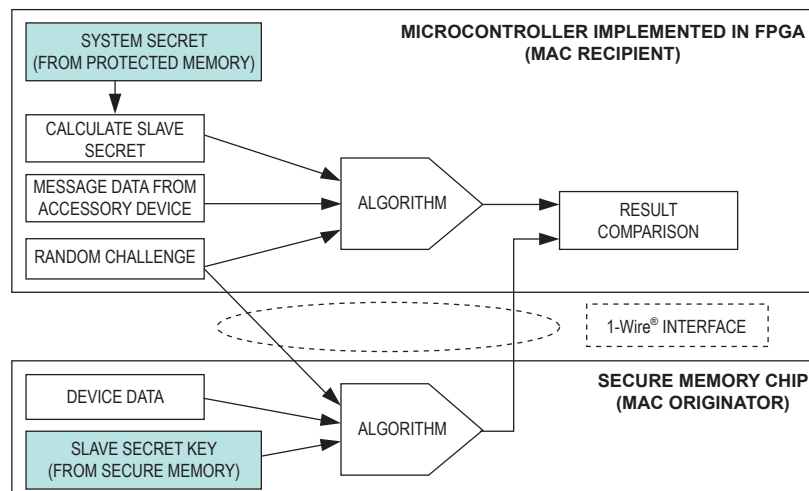

Figure 13. The Challenge-and-Response Authentication Process Proves the Authenticity of a MAC Originator
**Figure 13** illustrates the general concept. The longer the challenge, the more difficult it is to record all possible responses for a potential replay.
To prove the authenticity of the MAC originator, the MAC recipient generates a random number and sends it as a challenge to the originator. The MAC originator must then compute a new MAC based on the secret key, the message, and the recipient's challenge. The originator then sends the computed result back to the recipient. If the originator proves capable of generating a valid MAC for any challenge, it is very certain that it knows the secret key and, therefore, can be considered authentic. This process is called challenge-and-response authentication. See Figure 13.